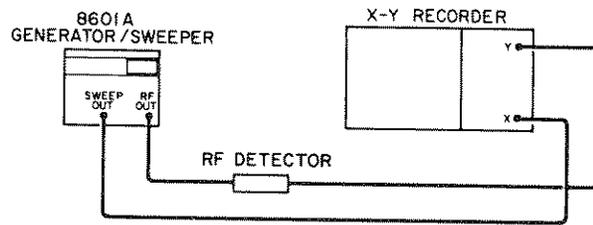

Figure 4-2. Alternate Linearity Test Setup
11. Connect equipment as shown in Figure 4-2.